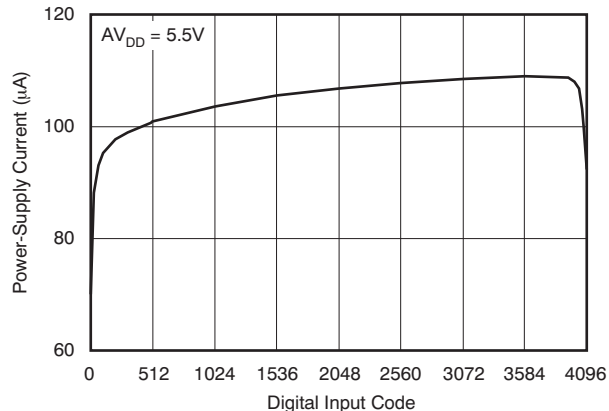

Figure 15.
(6) Specified by design and characterization, not production tested.
(7) For more details, see Figure 15, Figure 58, and .